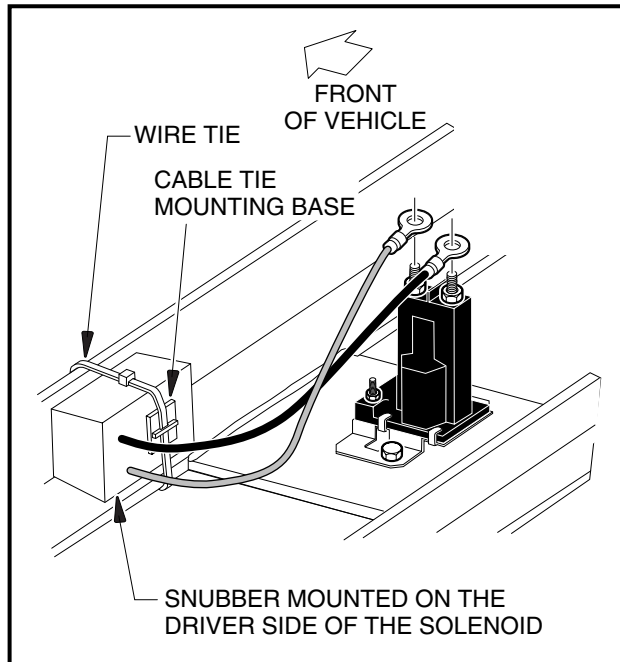

Figure 12-4 Mount Solenoid
1. Position the solenoid with the small posts toward the front of the vehicle. Install one of the mounting screws through the driver-side hole on the solenoid base and into the corresponding hole in the mounting plate (**Figure 12-4, Page 12-6**). Tighten screw to 50 in-lb (7.3 N·m).
2. Install passenger-side screw and tighten to 50 in-lb (5.6 N·m) (**Figure 12-4, Page 12-6**).
4. Attach snubber assembly to frame on either the passenger or the driver-side of the solenoid using a wire tie and cable tie mounting base (**Figure 12-4, Page 12-6**).